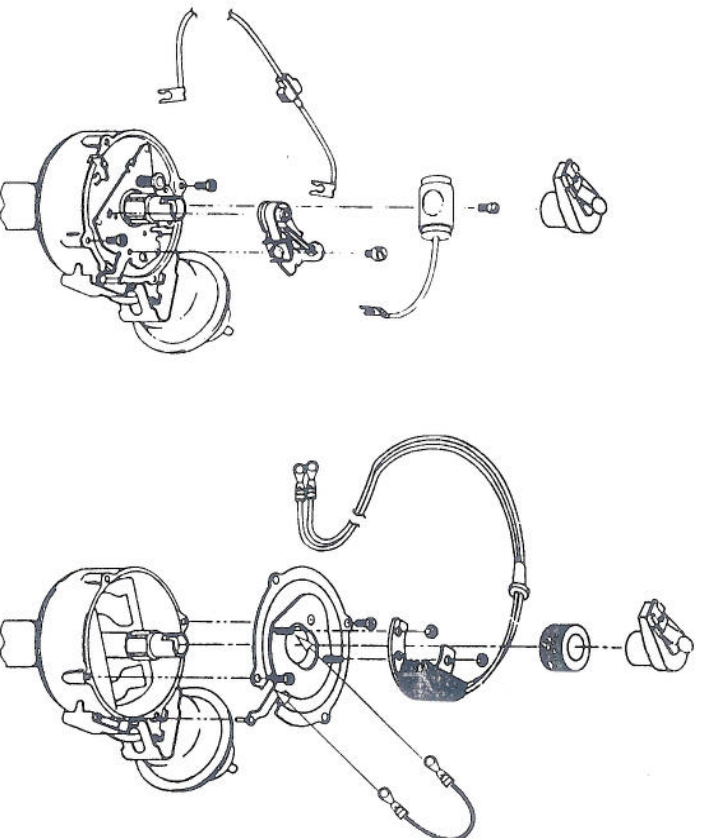

FIGURE 1
1. The Ignitor II ignition can be used in conjunction with most ignition coils rated at 0.6 ohms or greater. For optimum performance purchase and install the Flame-Thrower II high performance coil. Attach the black Ignitor II wire to the negative coil terminal. Attach the red Ignitor II wire to the positive coil terminal. (See Figure 1)